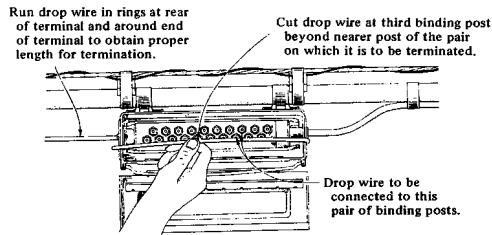

FIGURE 6—Obtaining Proper Length of Wire for Termination
2.05 When running wires to a terminal installed on strand supporting cable attached to a building, cut, drop, or bridle wire to the proper length for termination. See Figure 6.